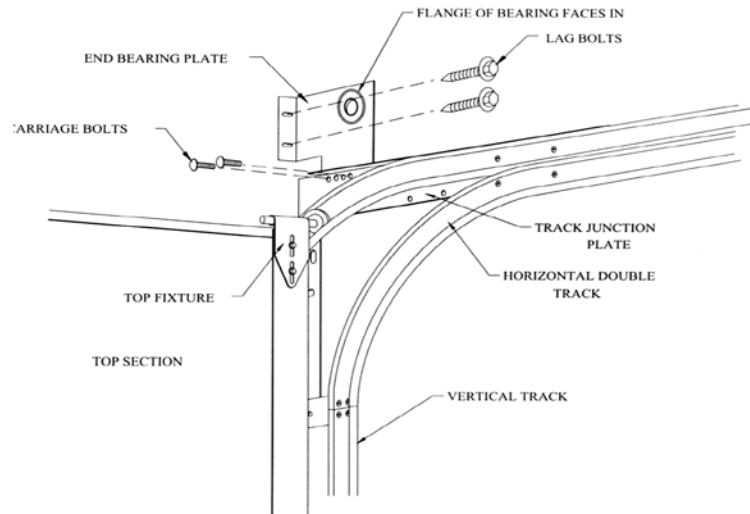
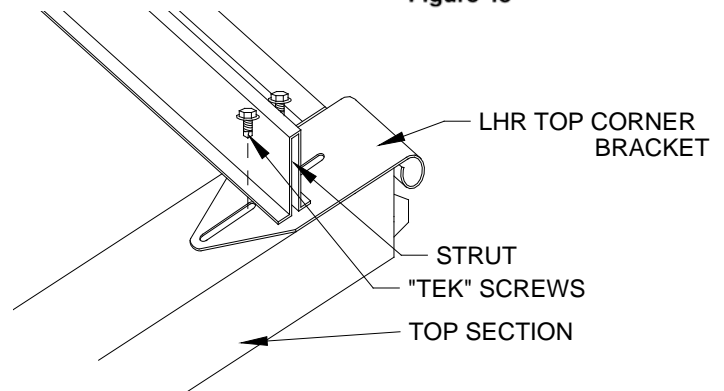
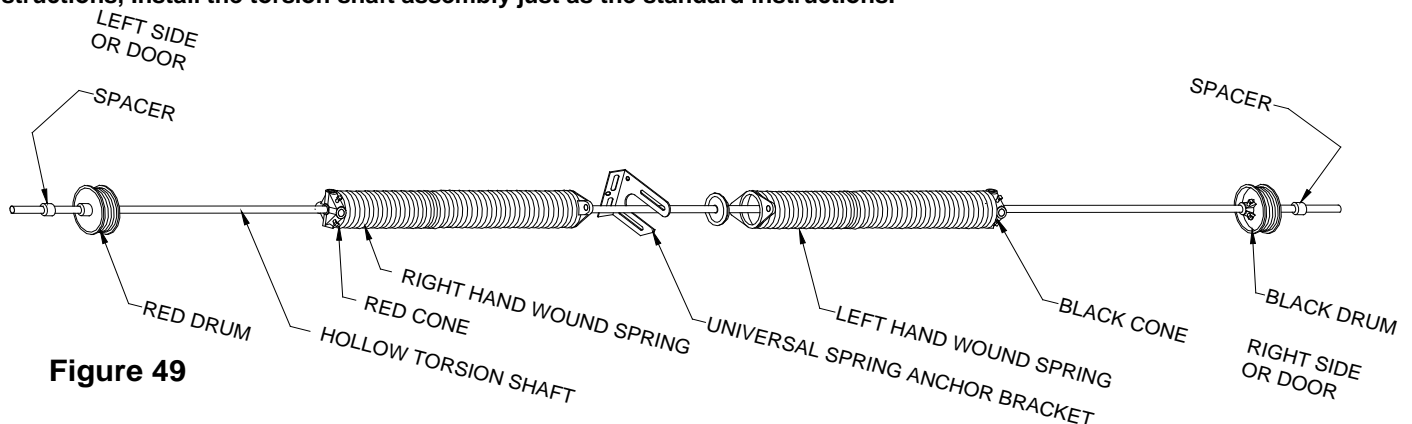

Figure 48
FIGURE 48A
Figure 49
- The top corner brackets are different and are installed at the very top of the top section. See figure 48. **If your door requires a strut on the top section it must be installed over the top of the top bracket, using the holes in the top bracket. See figure 48A**
- Two spacers are used on the torsion shaft. See figure 49. These spacers are used to keep the drums and cable from rubbing on the horizontal track.
After mounting the horizontal tracks, as explained in the standard instructions, fasten the end bearing plates to the track junction plate and to the wall. Both the end bearing plate to the track junction plate with 5/16" x 3/4" carriage bolts and lag the end bearing plate foot to the wall with the 5/16" x 1-5/8" lag bolts provided. See figure 48. Note: The flange on the bearing in the end bearing plate should face in toward the door. The diagram below shows the use of two spacers, which have been provided in the hardware carton, just outside the drums but inside the end bearing plates. These spacers will keep the cable drum and cable away from the horizontal track and allow for smoother operation just like standard lift doors. See figure 49.
Assemble the torsion shaft, springs, center bearing plate, drums and spacers as shown in figure 49. Go back to the standard instructions, install the torsion shaft assembly just as the standard instructions.